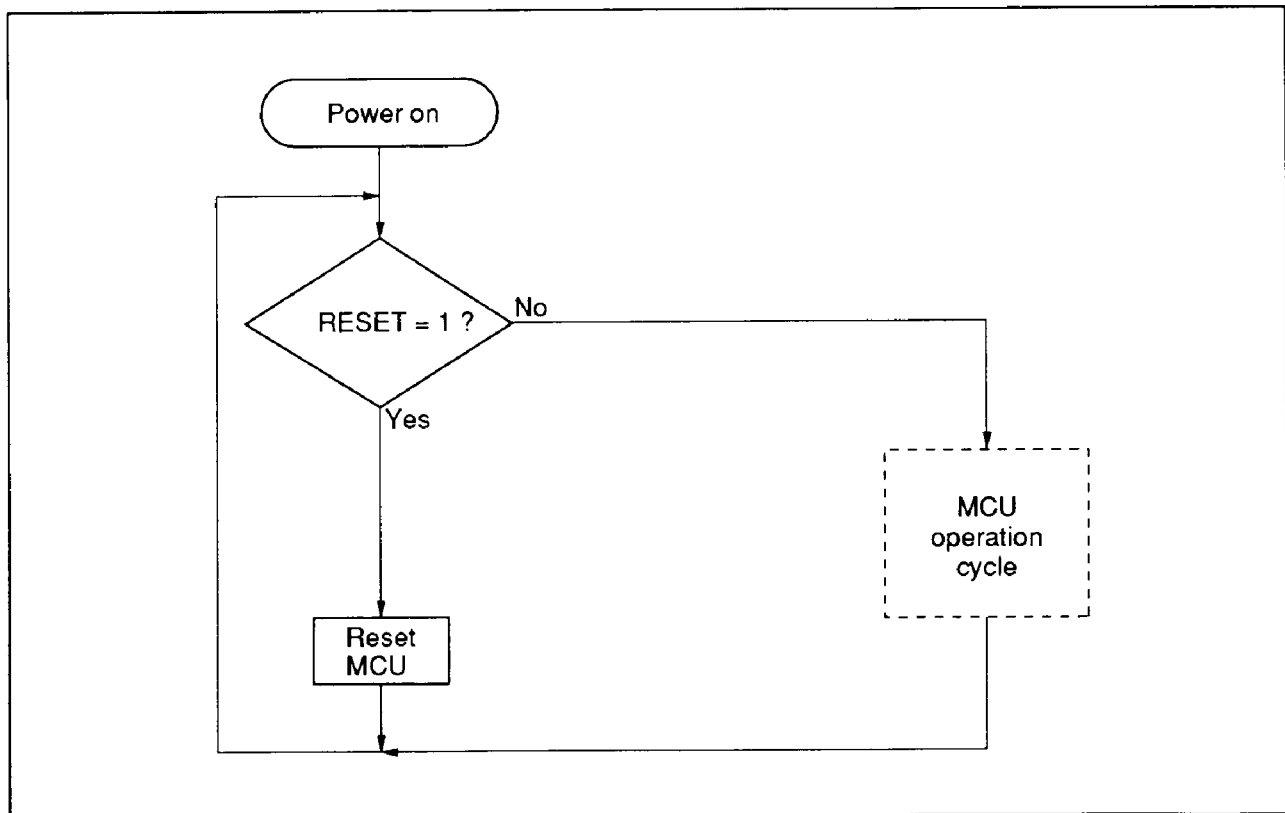

Figure 32 MCU Operating Sequence (Power On)
**MCU Operating Sequence:** The MCU operates in the sequence shown in figures 32 to 34. It is reset by an asynchronous RESET input, regardless of its state.